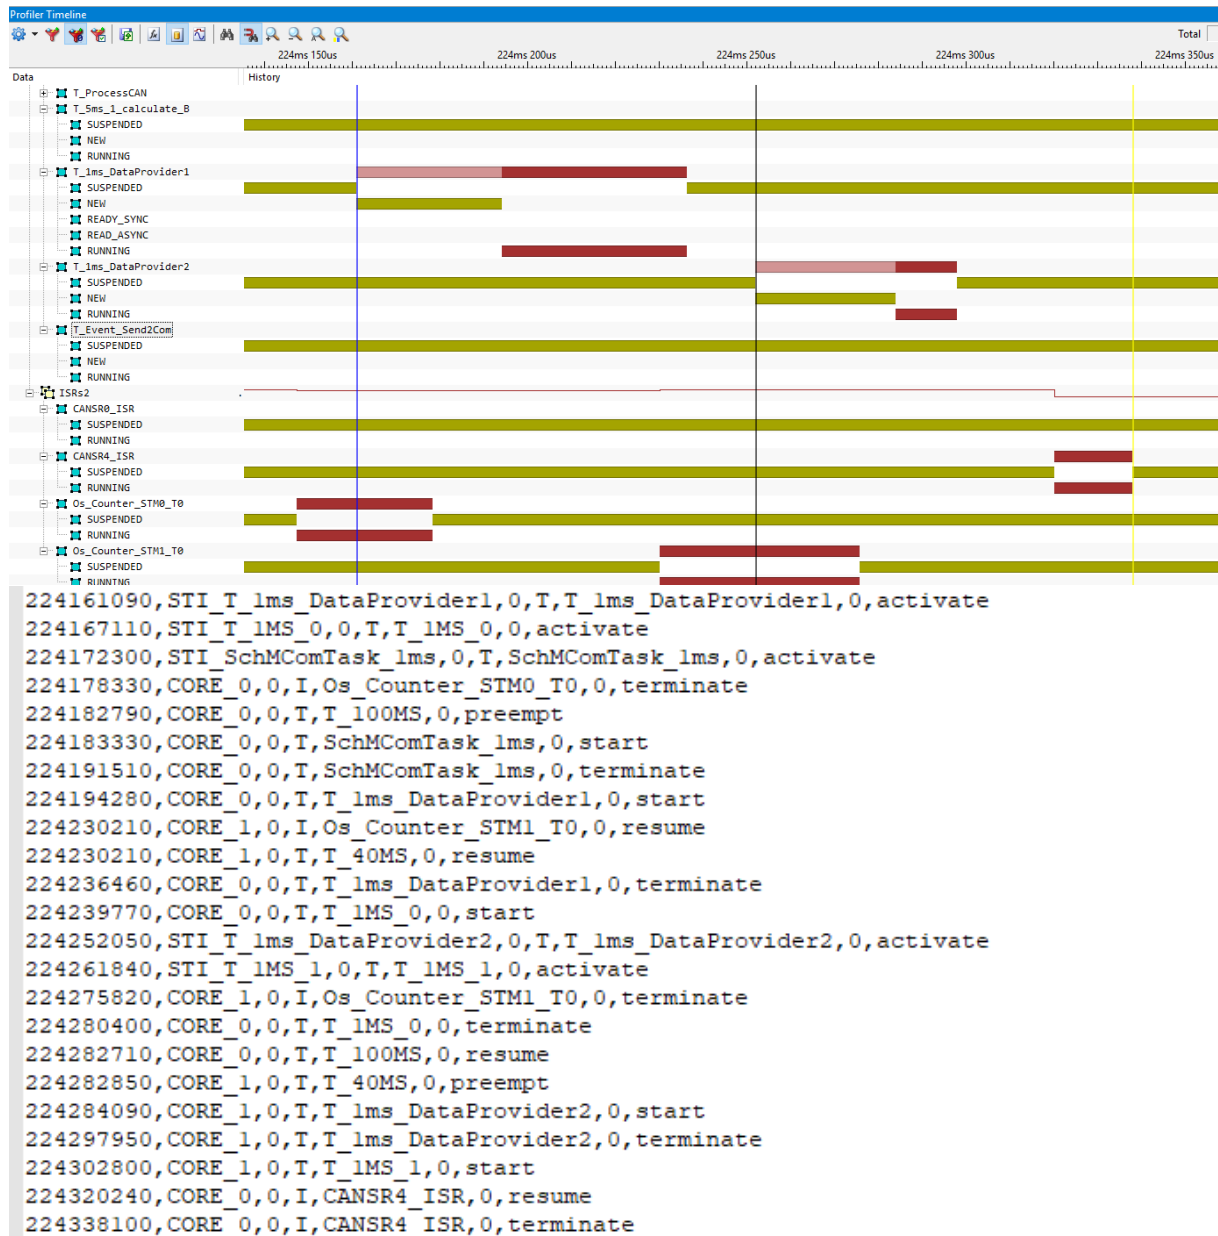

Figure 14: Sample BTF Export of OS tasks and ISR2
4. This generates a BTF trace file which matches the profiler timeline as shown in Figure 14.